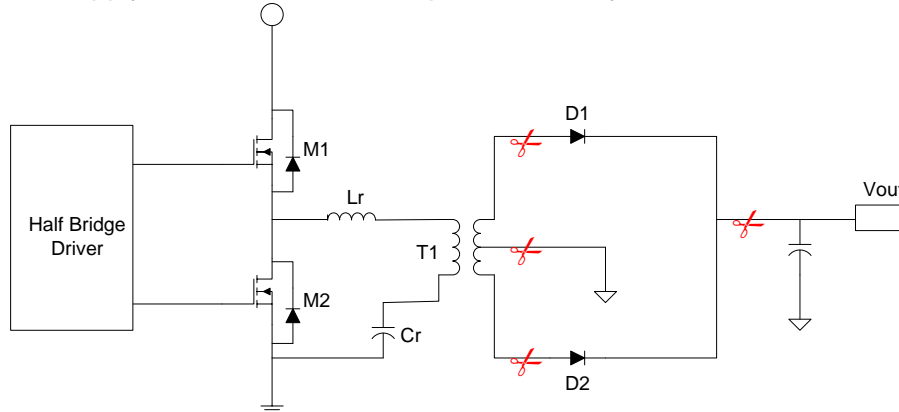

Figure 3—How to disconnect the diode rectifiers
1. Remove the diodes rectifiers from the board as the Fig.3 shows.